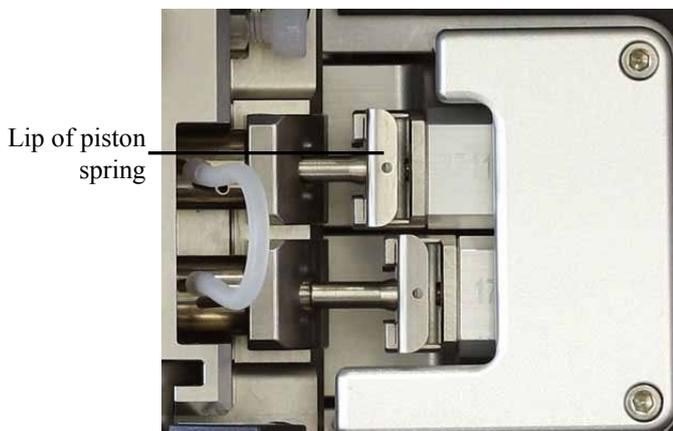

Fig. 52: Piston retaining springs correctly installed
4. Insert the piston retaining springs before the piston head. Make sure that the lips of the springs face the piston drive unit (→ Fig. 52).